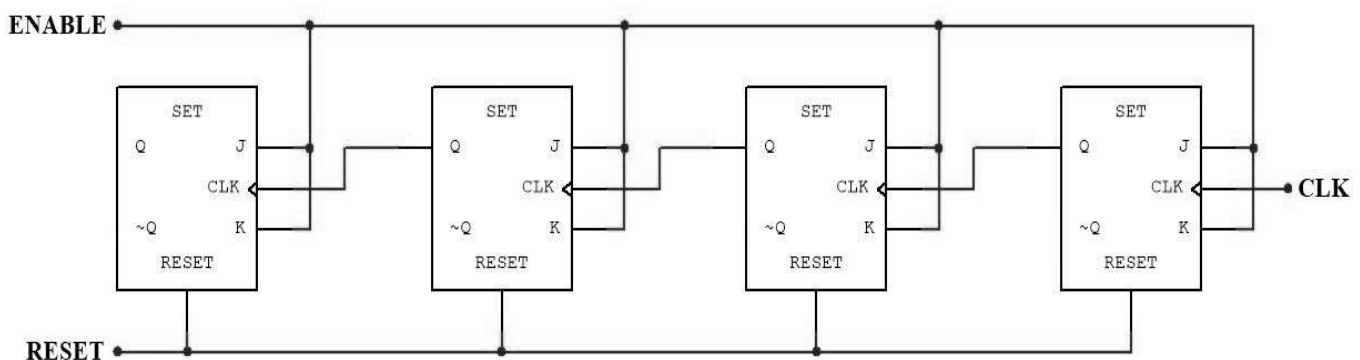

Figure 4.1. Binary Ripple Up Counter
Figure 4.1 shows a binary or ripple up counter. JK flip-flops are used because of their versatility. The *J* and *K* inputs are all connected together to an ENABLE input. When ENABLE is OFF (low), all the JK inputs are held low, placing the flip-flops into a 'no change' condition. Once the ENABLE is set ON (high), the JK inputs are forced high and each flip-flop is set into a 'toggle' condition. Each flip-flop will change state when a positive to negative transition is experienced on its *CLK* input.
1. Which flip-flops are set in figure 4.1 after seven clock cycles are applied following the release of the RESET signal?
2. What is the highest binary number that could be represented by the counter in figure 4.1 if the CLK input to FF₃ were open?